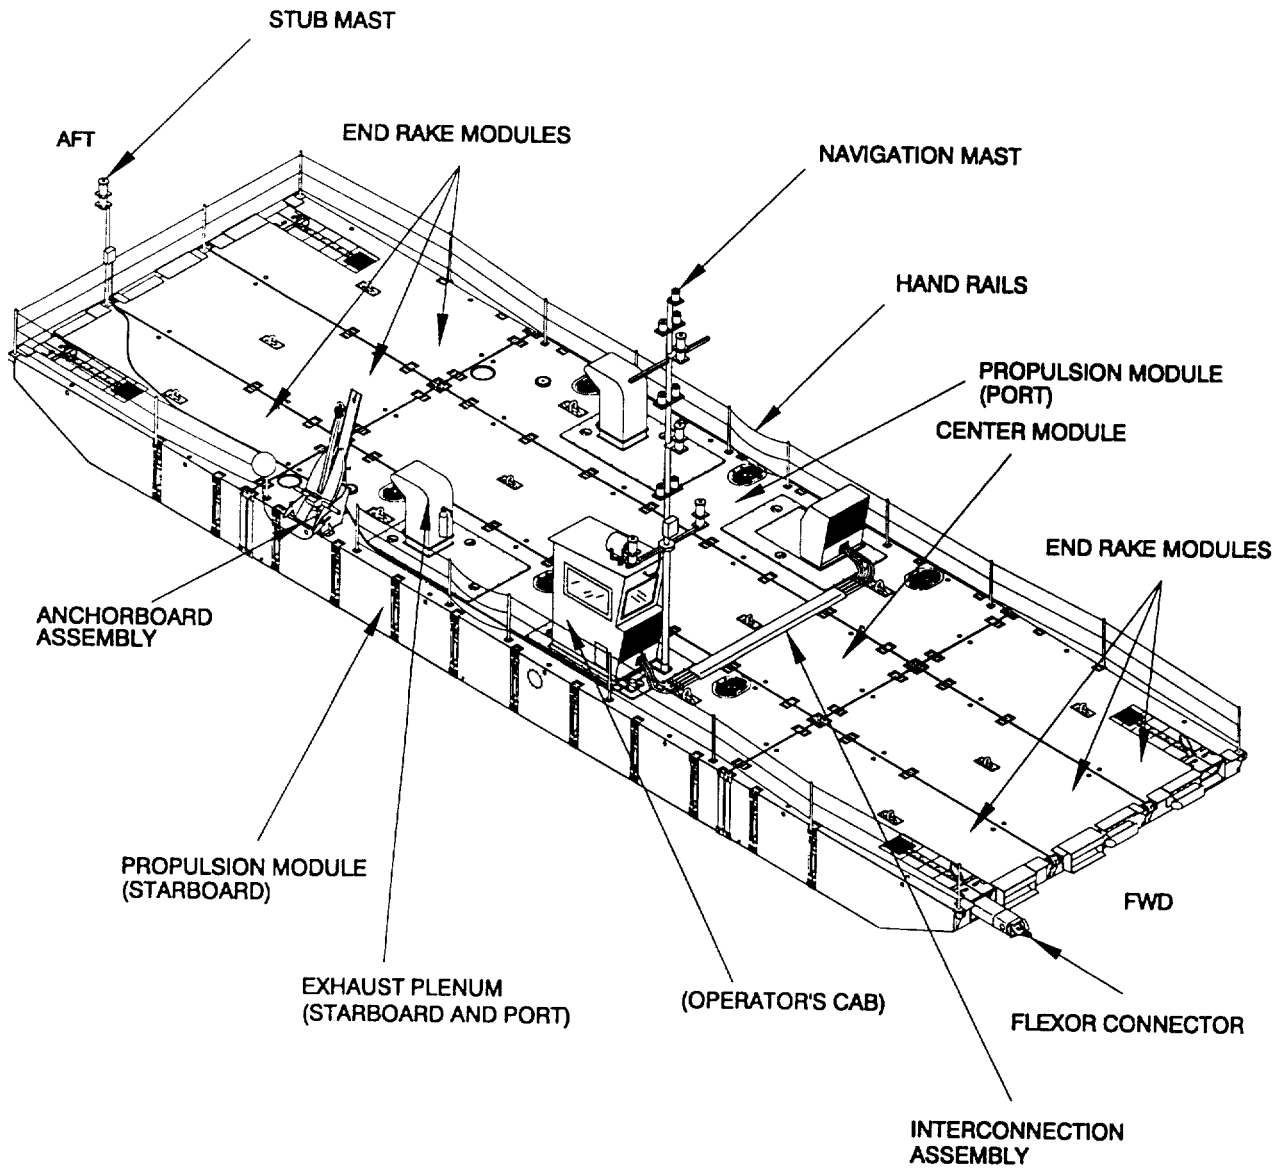

Figure 2-49. Assembled Powered Section.
- p. The fully assembled powered section (Figure 2-49) is now ready for initial pre-start checks